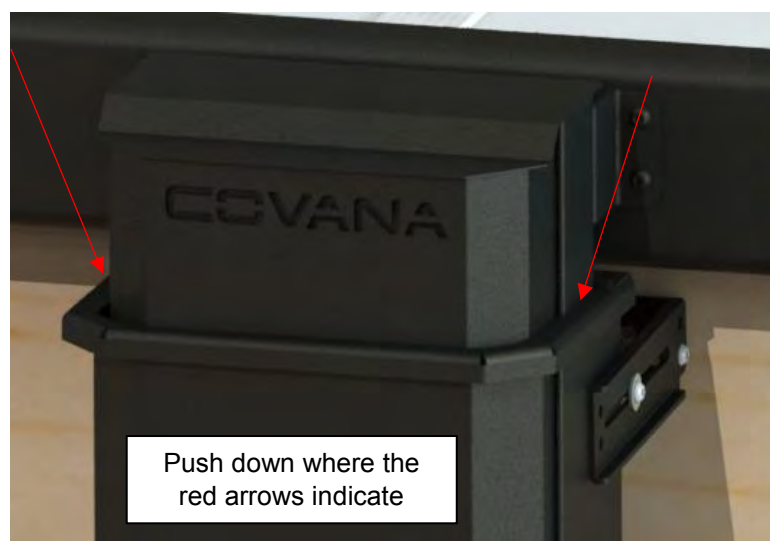

Figure 102
24) For all four posts, slide the all-weather seals down. Ensure they are properly seated on the outer sleeves' base. Push down on the seal as shown (Figure 102)